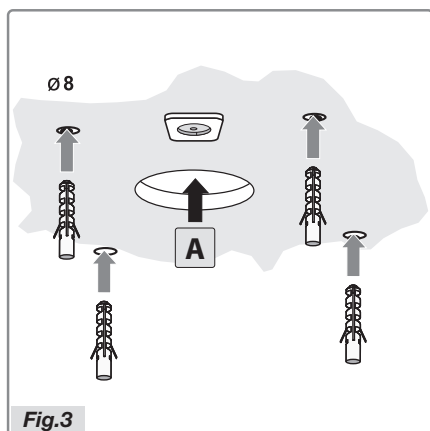

Fig.3
- Form the air outlet opening **A** (Fig.3).